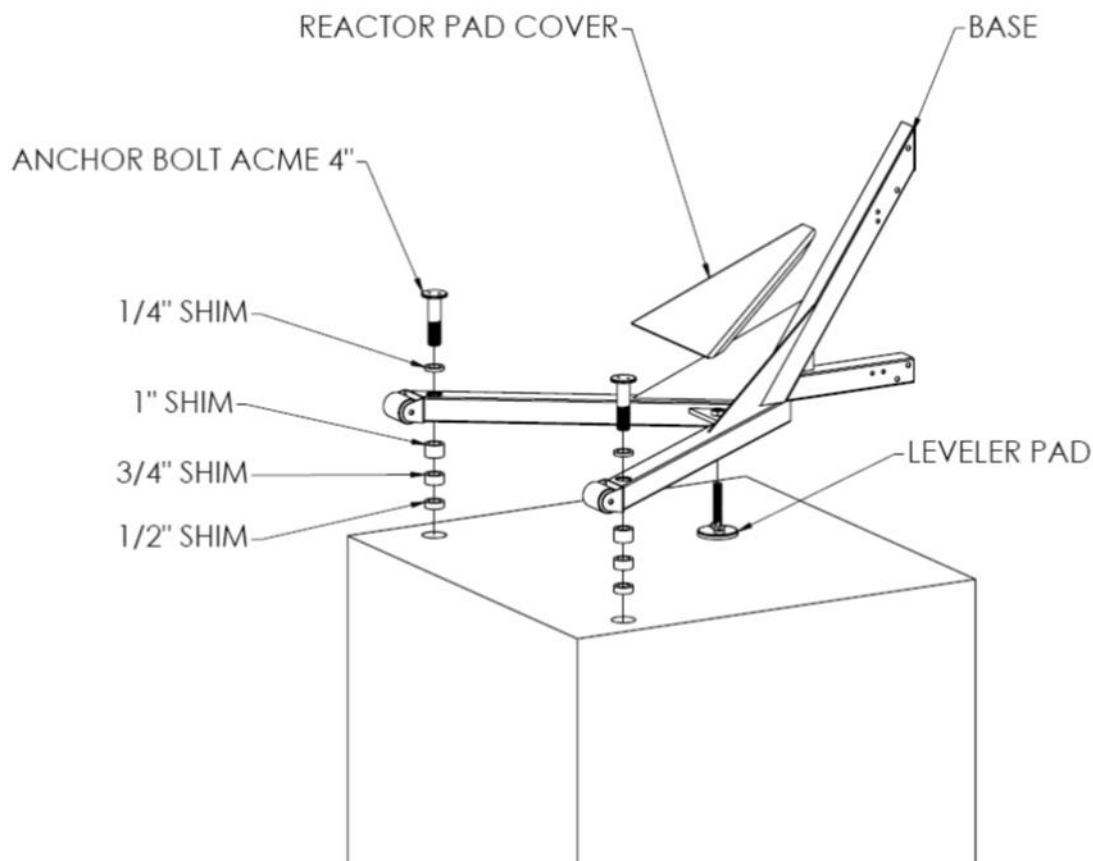

Figure 4
2. Use a 1-1/2" diameter concrete core drill to drill out the anchor holes to a depth of 2-3/16" as shown in Figure 4. Clean all of the debris from the holes. Check to see that the bottom of each hole is in solid concrete. The anchors will only hold if the surrounding concrete is solid. The top of the anchor should be $\frac{1}{4}$ " below the deck surface. The anchors can be installed deeper, if necessary, to mount to sufficiently solid concrete.
5. Screw the leveler pad into the base assembly as shown in Figure 4, flush with the bottom of the base stand until further adjustment.
6. Bolt the lift to the anchors in the deck using two 1" by 4" acme bolts as shown in Figure 4. **Do not completely tighten the 1" diameter acme bolts at this time.**
10. Level the lift front to back, if necessary, by using donut shims between the base stand and each anchor, and adjusting the leveler pad by screwing the pad in or out. The donut shims can be used individually or in combination to level the lift. The donut shims can be used above the anchor base or below as shown in Figure 4 to prevent the acme bolts from bottoming out in the anchors.
12. Install cover on lift as shown in Figure 4.